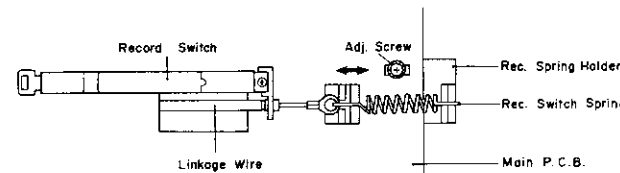

Fig. 4.24.1
- (1) Set the N-660ZX in stop mode.
- (2) Loosen the screw of the Record Spring Holder, and shift the Record Spring Holder in order to remove the looseness of the Linkage Wire as shown in Fig. 4.24.1. Then tighten the screw for fixing the Record Spring Holder. (In this case, the Record Switch should be positioned at Play side. If in the Record position, it will be defective.)